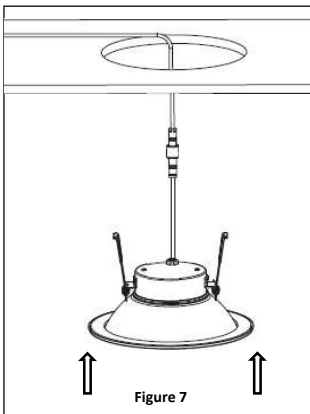

Figure 7
5. Push up and hold the spring clips against the fixture. Gently guide into the ceiling until the clips are in the hole. Tuck excess wire into the ceiling and be sure not to pinch or crimp the wire. **See Figure 7.**